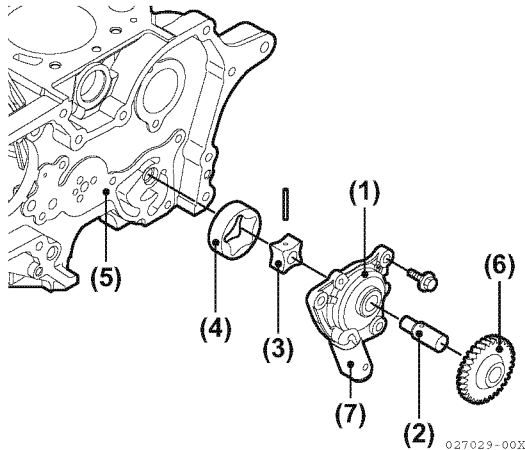

Figure 9-2
3. You can remove by hand the lubricating oil pump cover (**Figure 9-2, (5)**) and outer rotor (**Figure 9-2, (4)**).
Clean the lubricating oil pump, pressure regulator valve (Figure 9-2, (7)), and rotor inserting portion. Check the parts for wear or flaw. Replace the parts with new ones as needed.